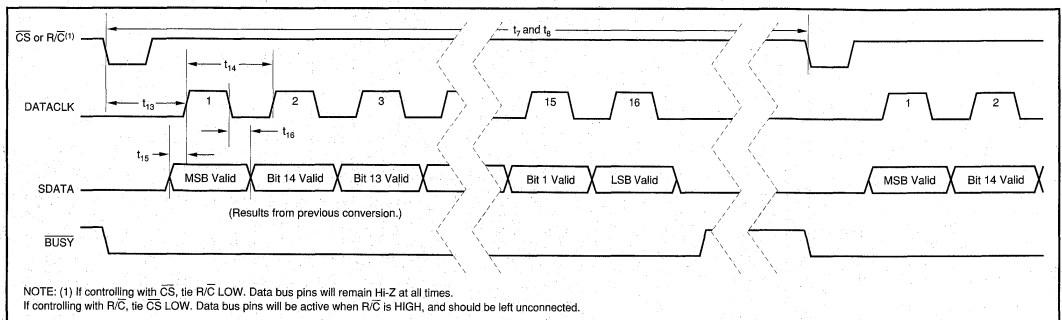

FIGURE 4. Serial Data Timing Using Internal Data Clock (TAG tied LOW).
NOTE: (1) See Figures 4, 5, and 6 for constraints on data valid from conversion "n-1".
To use the internal data clock, tie $\overline{EXT}/\overline{INT}$ (pin 8) LOW. The combination of R/\overline{C} (pin 22) and \overline{CS} (pin 23) LOW will initiate conversion 'n' and activate the internal data clock (typically 900kHz clock rate). The ADS7807 will output 16 bits of valid data, MSB first, from conversion 'n-1' on SDATA (pin 19), synchronized to 16 clock pulses output on DATACLK (pin 18). The data will be valid on both the rising and falling edges of the internal data clock. The rising edge of BUSY (pin 24) can be used to latch the data. After the 16th clock pulse, DATACLK will remain LOW until the next conversion is initiated, while SDATA will go to whatever logic level was input on TAG (pin 20) during the first clock pulse. Refer to Table VI and Figure 4.